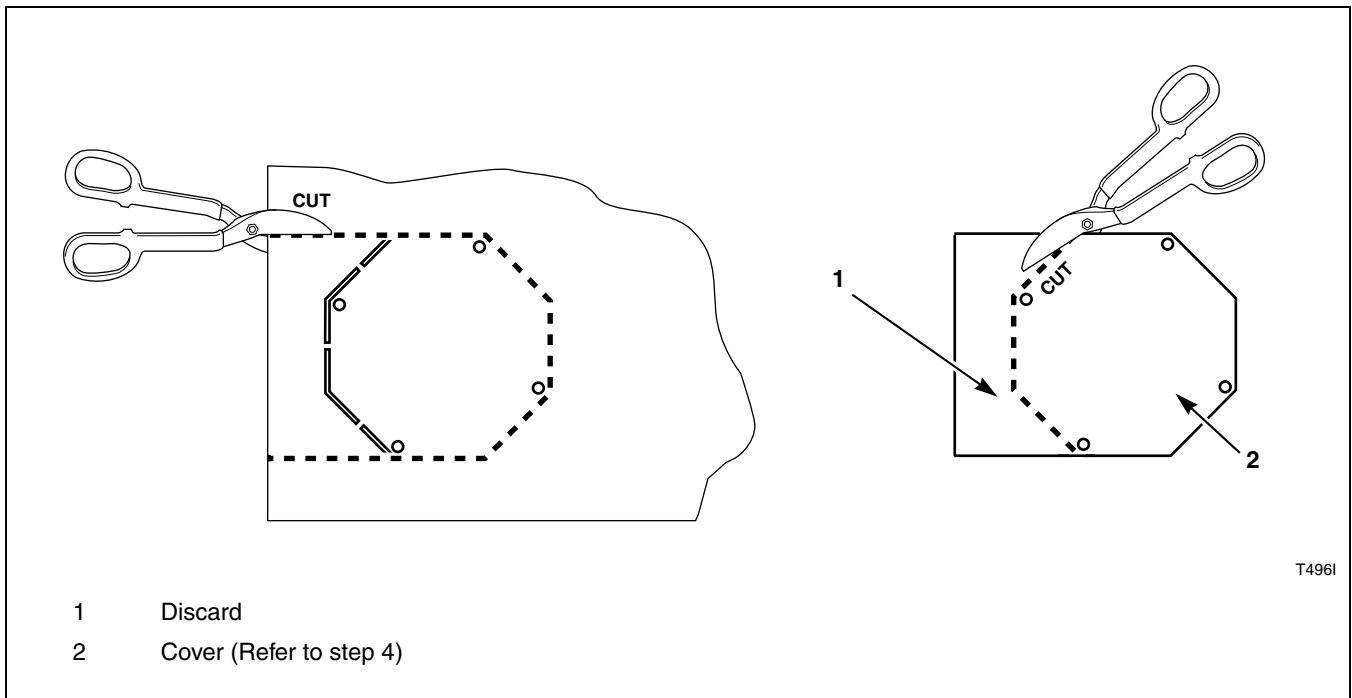

Figure 7
3. Cut out shape from belt guard cover. Refer to *Figure 7*.